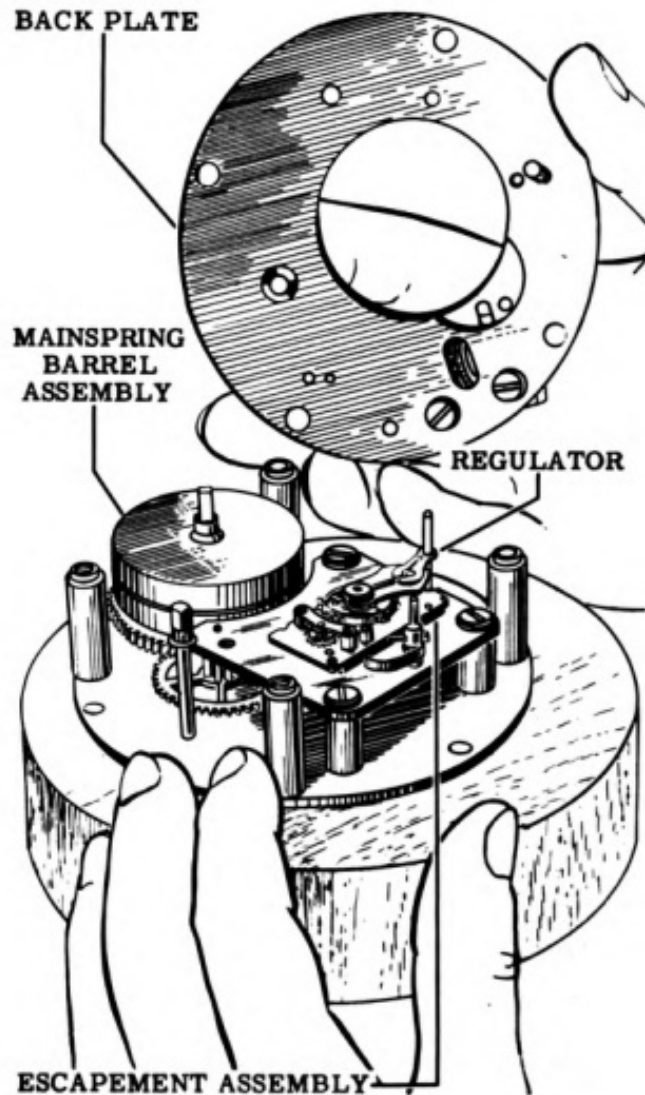
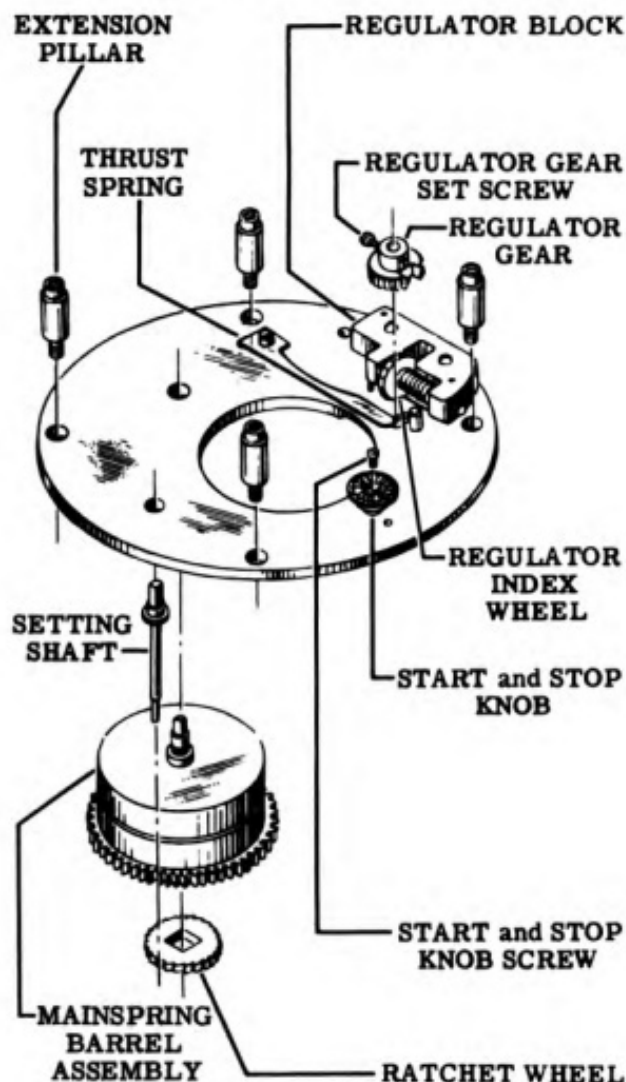

Figure 32
Figure 33
7. Unscrew the regulator gear set screw and remove the regulator gear, using the hand removers, Tool No. 2A (refer to Fig. 33).
8. Using the special pillar pliers (Tool No. 6A), remove the four extension pillars which hold on the back plate (refer to Fig. 33). Remove the back plate as shown in Fig. 32.
bled on the back plate unless further disassembly is required for repairs. See Fig. 33.
10. As soon as the back plate has been removed, lift out the setting shaft, the mainspring barrel assembly and the ratchet wheel. The positions of these parts are shown in Fig. 33.